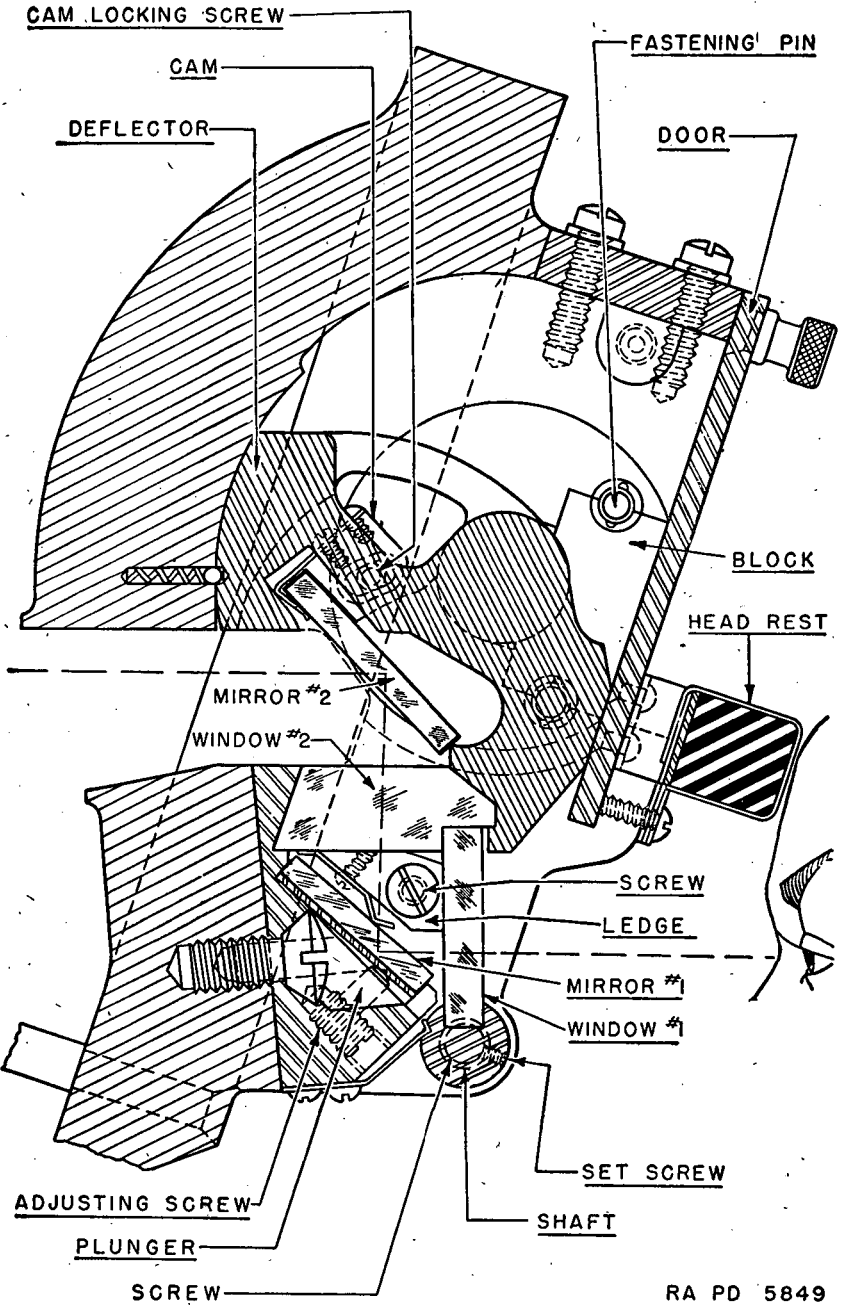

FIGURE 86.—Front door periscopescope.
(2) *Maintenance.*—Keep the windows and mirrors of the protectoscope clean and free of oil. Keep the deflector trunnions, blocks, and adjusting screws of the windows oiled to prevent corrosion. Adjust the upper and lower mirrors to obtain the best vision. The upper mirror (mirror "2") may be adjusted by loosening the locking screw on each cam (fig. 86) and setting the mirror at the desired angle. Tighten cam locking screws when the desired angle is obtained. See
replacement instructions for procedure on making these cam locking screws accessible. The lower mirror is adjusted by means of adjusting screws near the ends of the mirror and beneath it (fig. 86). Turning these screws clockwise rotates the mirror closer to the horizontal position, anticlockwise toward the vertical position. Since turning one screw only changes the angle and tilts the mirror, the adjusting screws will be turned together when changing the angle of the mirror.
2. Rotate bullet deflector forward, or anticlockwise as shown on figure 86.
3. Rotate window "1" backward, or clockwise as shown on figure 86.
7. Rotate deflector backward or anticlockwise on figure 86, until mirror "2" is alined with the slot milled in the housing. Mirror "2" in this position is parallel with the door.
9. Loosen ledge locking screws (fig. 86).